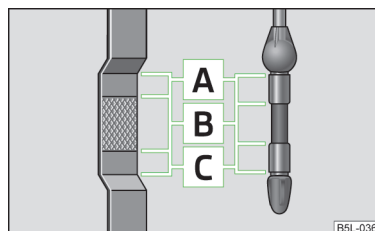

Fig. 136
-  Do not drive on if the oil level is above range **A** » Fig. 136 on page 149. Switch off the engine and seek assistance from a specialist garage.
The dipstick indicates the engine oil level » Fig. 136.
The oil level must never be above the **A** range » Fig. 136 - there is a risk of damaging the exhaust system!